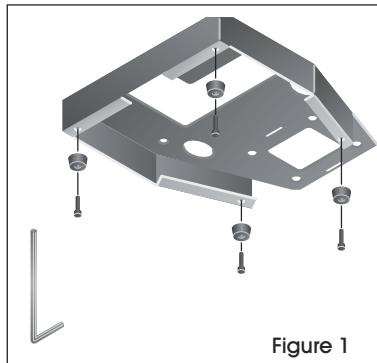

Figure 1
2. Use a 5/32" Allen wrench to screw the four socket head cap screws into the four rubber feet. (See Figure 1)